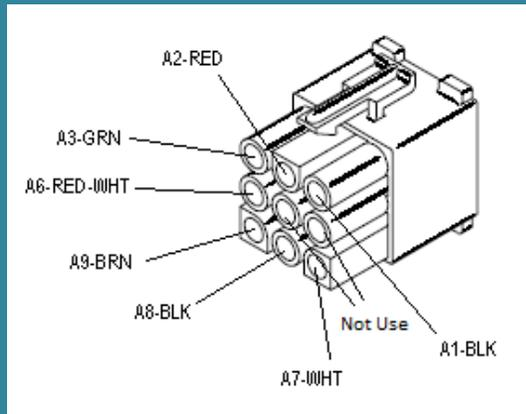

Figure 3 – HTS Signature Series Heat Pump Controls Connector
- b) The unique Molex connector as identified in **Figure 3**. This connector plugs into the fan cabinet of the Signature Series.